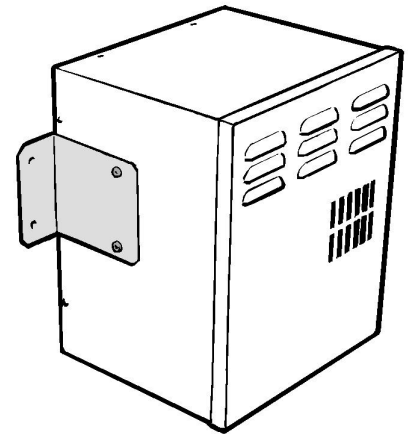

Figure 22.
3. If the fan box is to be sited totally outside the wall fit the brackets with the short flanges flush with the air intake end of the fan box (see figure 22).